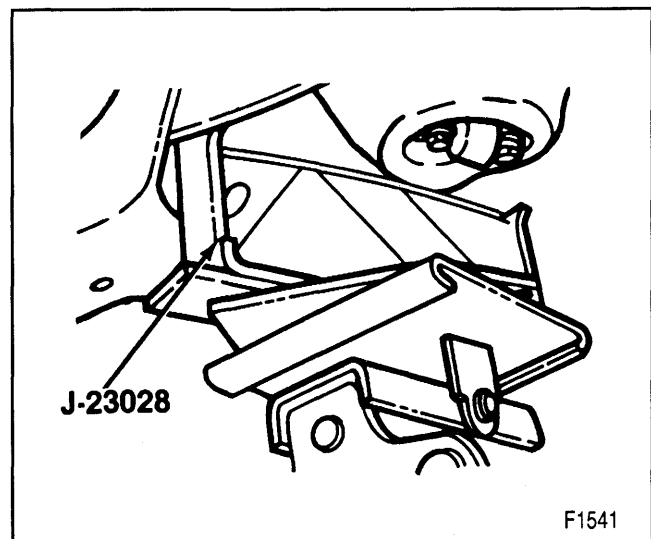

Figure 23—Cradling the Lower Control Arm
- Cradle the lower control arm using J 23028-01 secured to the end of a suitable jack (figure 23).
- Use J 23028-01 to support the control arm (figure 23).
2. The lower control arm (40) in place on the frame.